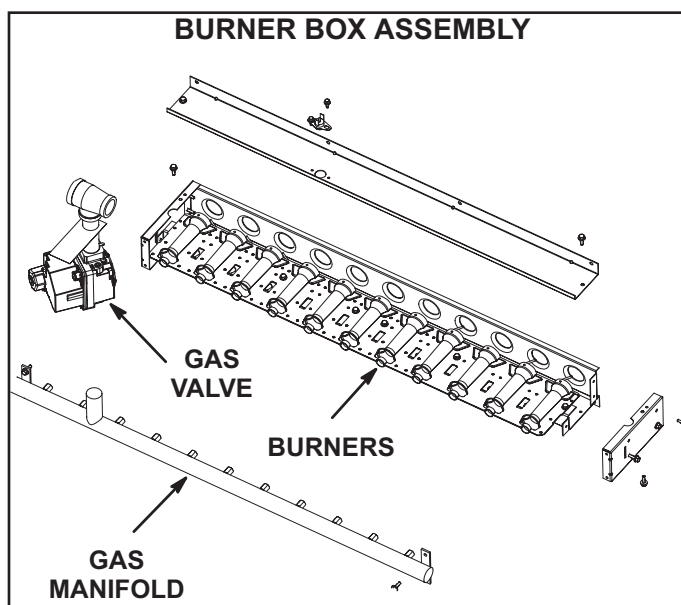

FIGURE 37
- 3 - Remove screws securing burners to burner support and lift the individual burners or the entire burner assembly from the orifices. See FIGURE 37. Clean as necessary.